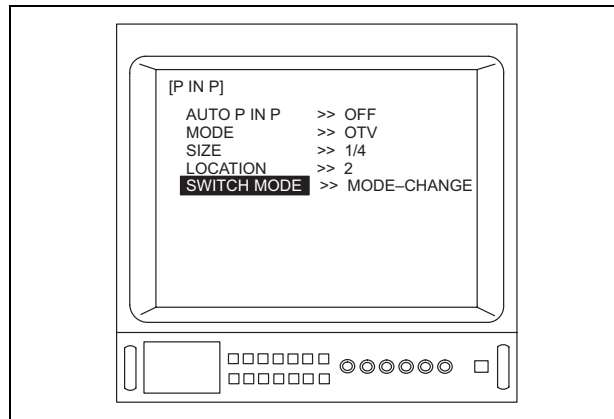

Figure 5.117
7. Depress the menu switch "←" or the "Enter" key on the keyboard to adjust the "SWITCH MODE" (see Figure 5.117).